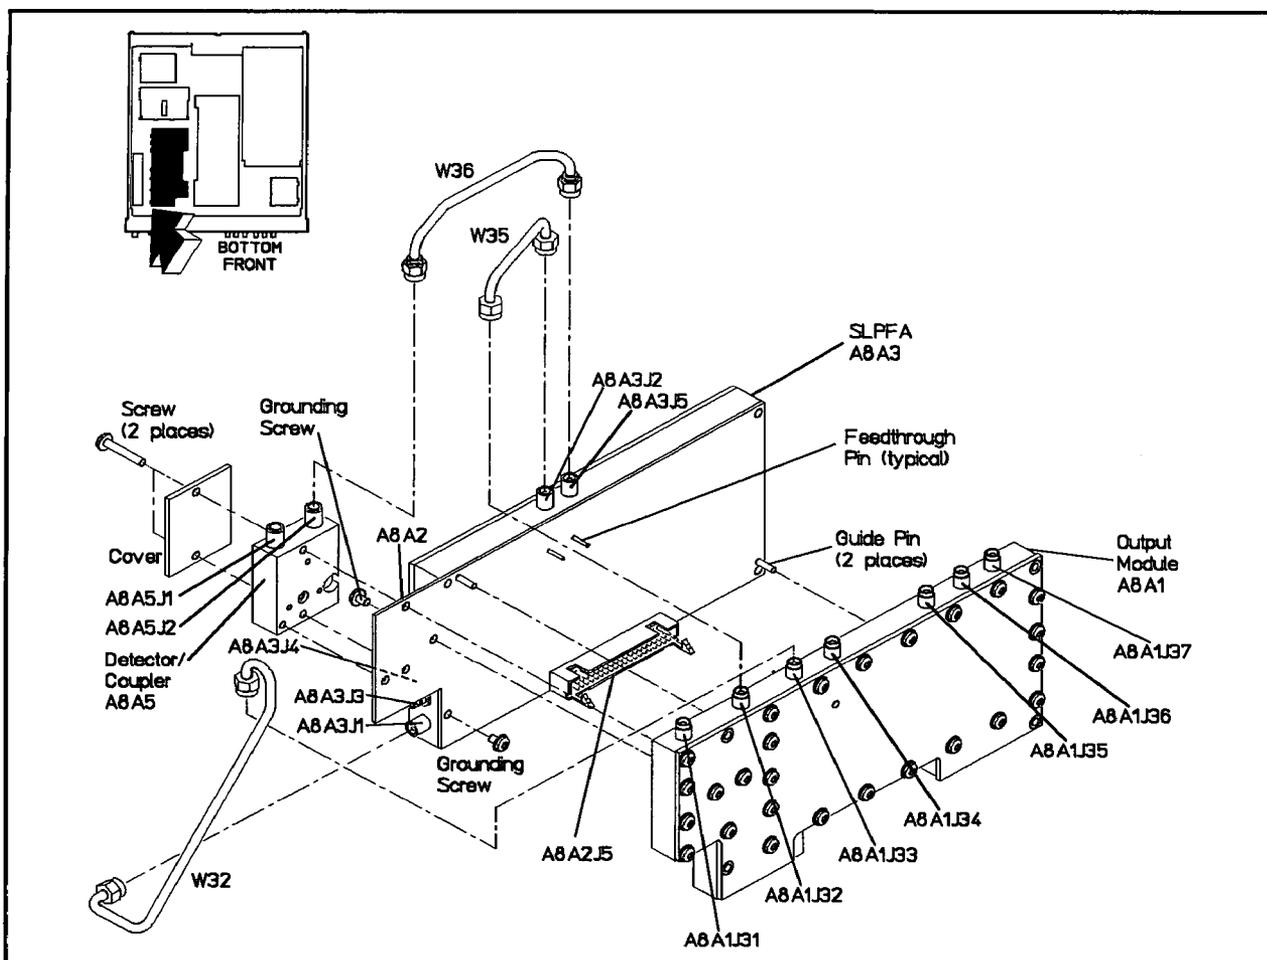

Figure 5-35. Output Module, SLPFA Module, and Coupler/Detector Separation
1. Refer to "Semi-Rigid Coaxial Cables" and Figure 5-35. Then, using a 5/16 in open end wrench, remove W36 connecting the SLPFA module 0.01–1 GHz IN to the coupler/detector.
2. With the SLPFA module facing downwards, use a size 10 TORX® screwdriver to remove the single TORX® screw on the exposed portion of the printed circuit board, A8A3. See Figure 5-35.
4. Using a size 10 TORX® screwdriver, remove the two screws from the coupler/detector and metal cover. See Figure 5-35.
1. Refer to "Semi-Rigid Coaxial Cables" and Figure 5-35. Then, using a 5/16 in open end wrench, remove the following semi-rigid coaxial cables:
2. With a size 10 TORX® screwdriver, remove the single TORX® screw on the exposed portion of the printed circuit board, A8A3. See Figure 5-35.
7. Refer to “Semi-Rigid Coaxial Cables” and Figure 5-35. Then, connect and hand tighten the following Semi-Rigid Coaxial Cables: